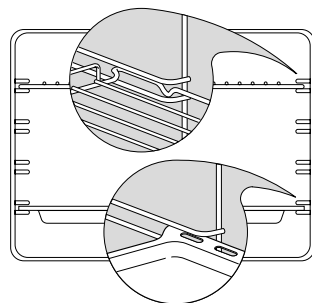

Figure 10 Correct position of shelves and pan
- Put in the shelves and trays. If you are not using the sliding shelf supports, then slide in the shelves and grill pan as shown in Fig 10. Fit them between the metal runners, with the safety stop notch down and at the back.